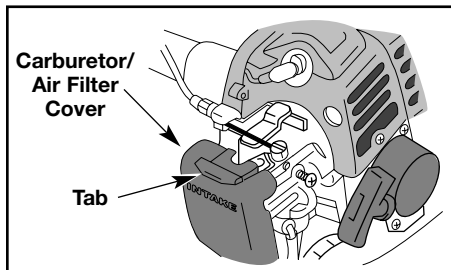

Fig. 24
1. Remove the carburetor/air filter cover by pushing on the tab on top of the cover (Fig. 24).